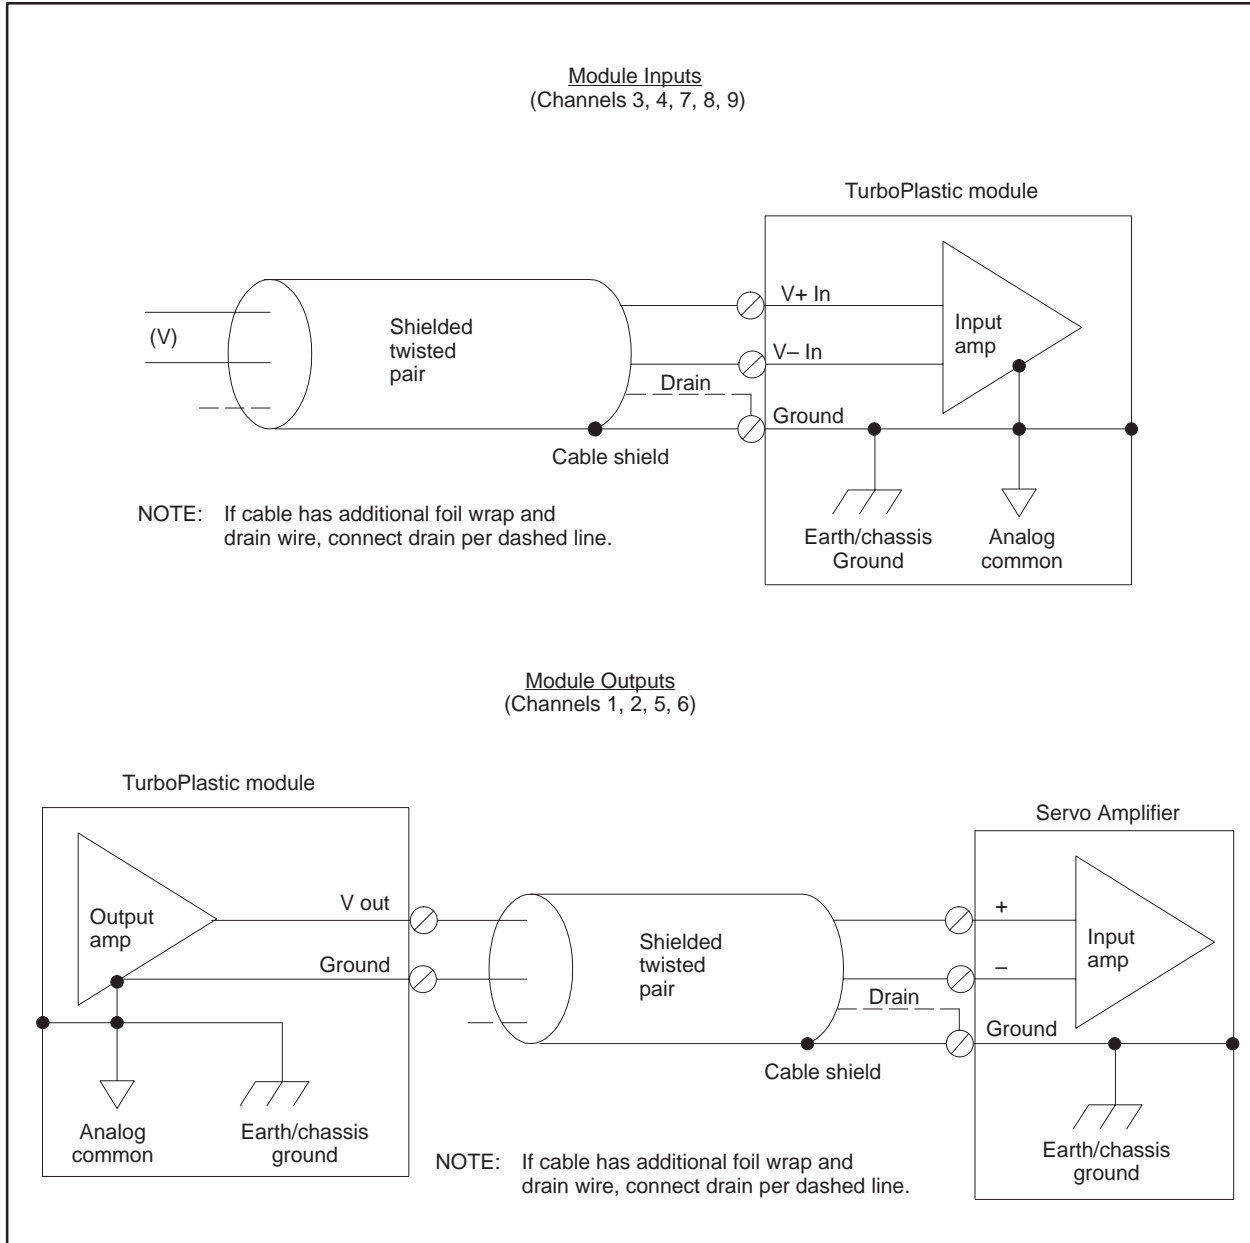

Figure 3-7 Module Input/Output Wiring
- Ground all shields at the module or amplifier input end as shown in Figure 3-7.